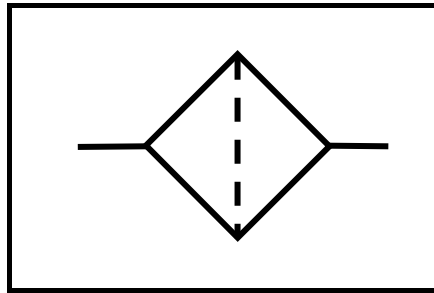

FIGURE 1.3
- 1.8 Identify the symbol, shown in FIGURE 1.3 below, which relates to a pneumatic system.